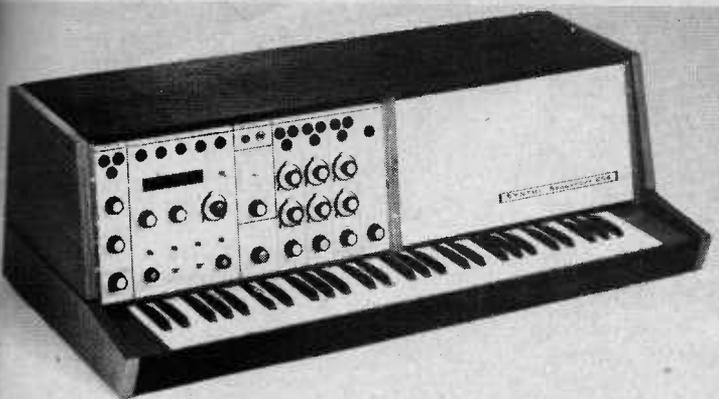

Fig. 13. (LEFT) EMS' sequencer has inbuilt digital memory bank.
E.M.S. have chosen the alternative of a digital memory bank for their sequencer. The major model, available free-standing (Fig. 13) or integrated in the Synthi 100, records 256 events in six simultaneous layers, each layer of which may control a different parameter.